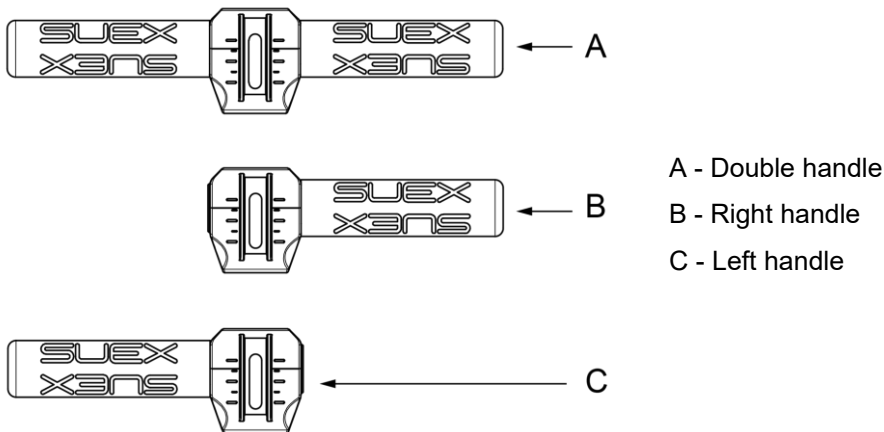

Fig 11 - Adjustable handles
As an alternative to the double handle, the user has the option of mounting either the RIGHT single handle (B - Fig 11 - a pag. 11) or the LEFT single handle (C) (provided), depending on his operational needs.